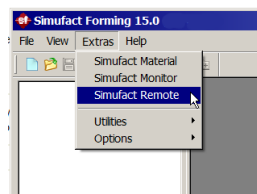

Figure 2.1. Opening the remote manager in Simufact Forming
5. On the server, start Simufact Forming as Administrator and open the Simufact Remote Manager (see Figure 2.1).
4. Start **Simufact Forming** and open the remote manager (Figure 2.1).